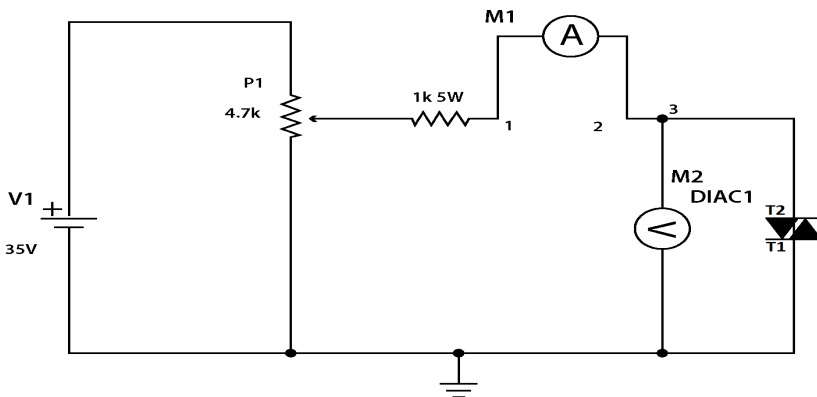

Figure 6
1. Connect the circuit, as shown in Figure 6, using patch cords.